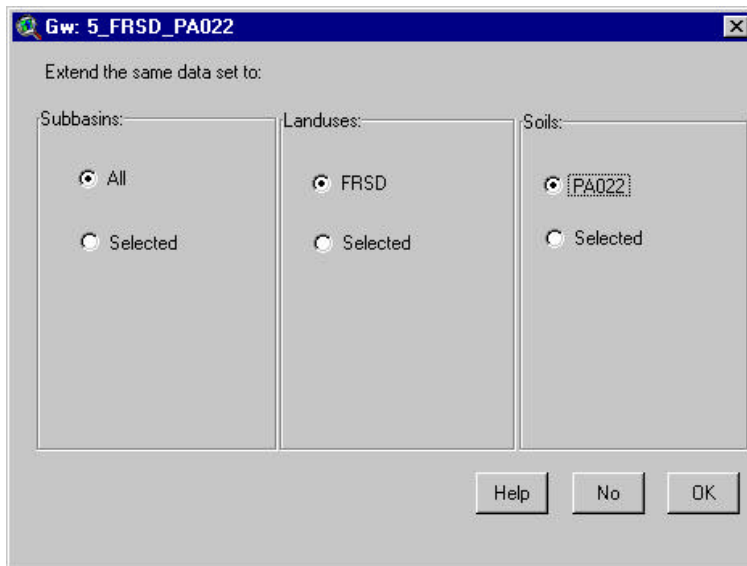

Figure 12.34
4. If the user saves the modified values, once the values are saved for the HRU (by clicking **OK** in Step 3), a new dialog box is displayed allowing the user to copy the modifications to other HRU data sets (Figure 12.34).